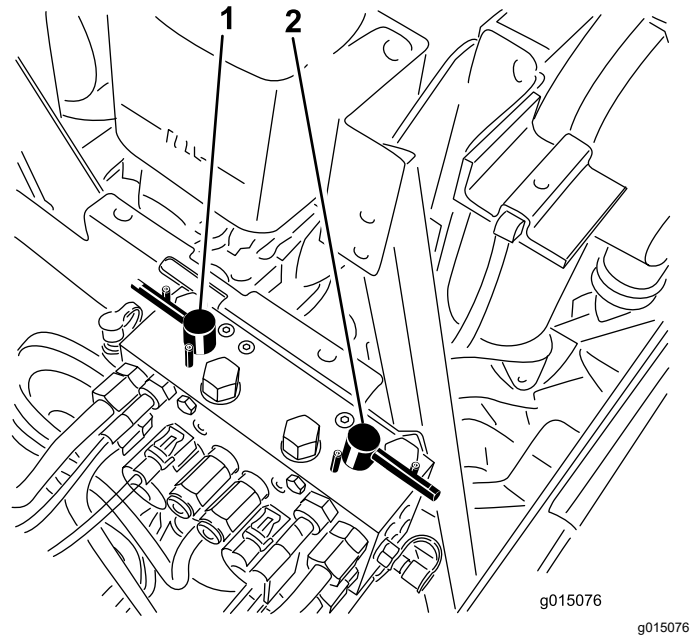

Figure 103
4. Select either front, rear, or both backlap levers to determine which units to backlap (Figure 103).